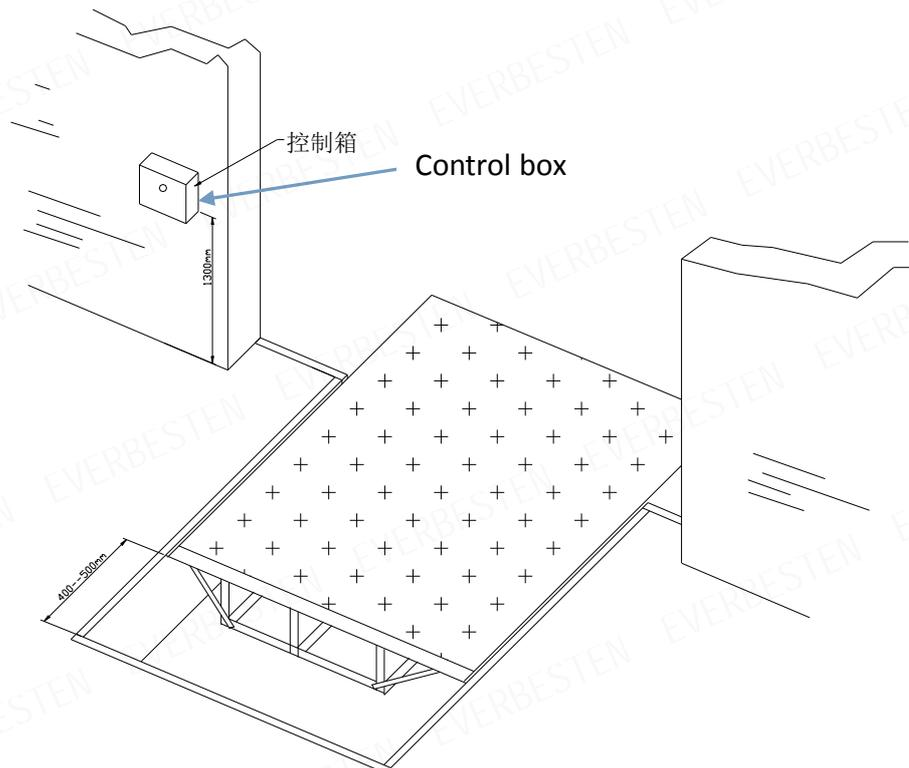

Figure -4
- 3. There has 400-500mm space at the "Back End" for wire-linking.(Figure-4) .